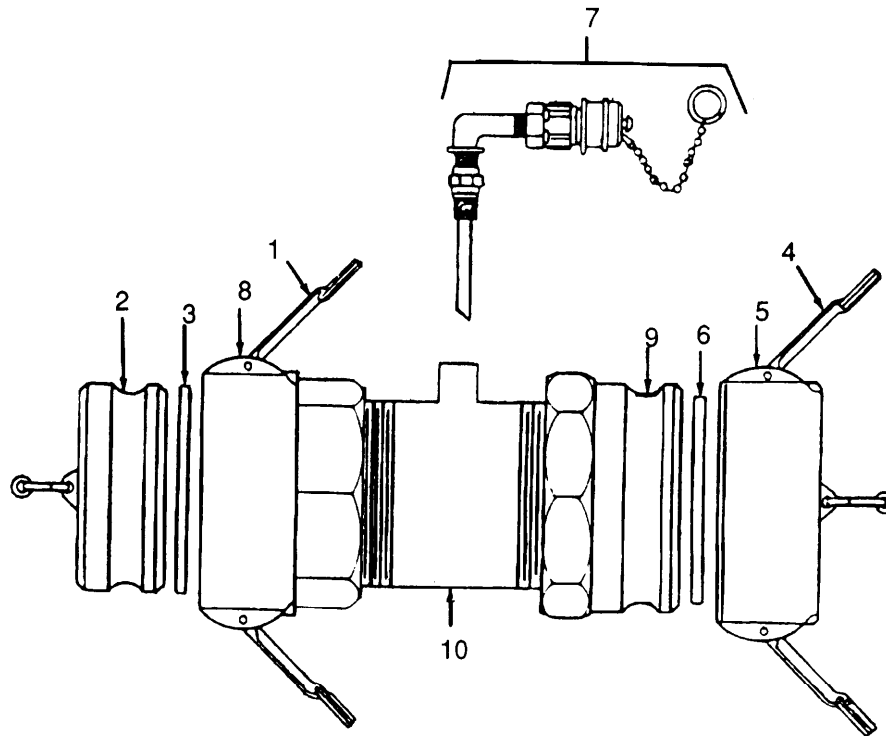

Figure 4-21. Water Detector Adapter, Disassembly/Reassembly.
- (1) Clean adapter with cleaning solvent.
- (2) Allow to dry.
- e. Disassembly. (Refer to Figure 4-21.)
- (1) Pull upon camlock levers (1) and remove dust plug (2) and gasket (3). Discard gasket.
- (2) Pull upon camlock levers (4) and remove dust cap (5) and gasket (6). Discard gasket.
- (3) Remove probe assembly (7) from nipple (10).
- (4) Remove coupling half (8) and coupling half (9) from nipple (10).
- (1) Refer to Figure 4-21 and apply sealing compound to threads of coupling halves and install coupling half (9) and coupling half (8) on nipple (10).
- (2) Apply sealing compound to threads and install probe assembly (7).
- (3) Install new gasket (6) and dust cap (5). Secure with camlock levers (4).
- (4) Install new gasket (3) and dust plug (2). Secure with camlock levers (1).